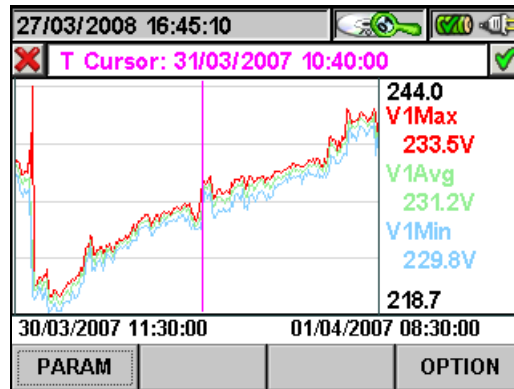

Fig. 109: Recording graph
- The **ENTER** key (or the smart icon on the display) confirms the selection previously made and displays the graph of the selected parameter (Fig. 109).